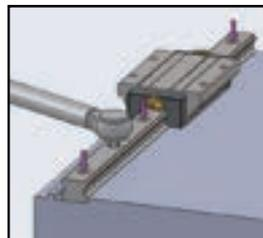

Fig 1.11.10 Full Tightening of Mounting Bolts
(D) Using a torque wrench, tightening the mounting bolts to the specific torque.(Fig 1.11.10)
(D) Using a torque wrench, tightening the mounting bolts to the specified torque.(Fig 1.11.10)